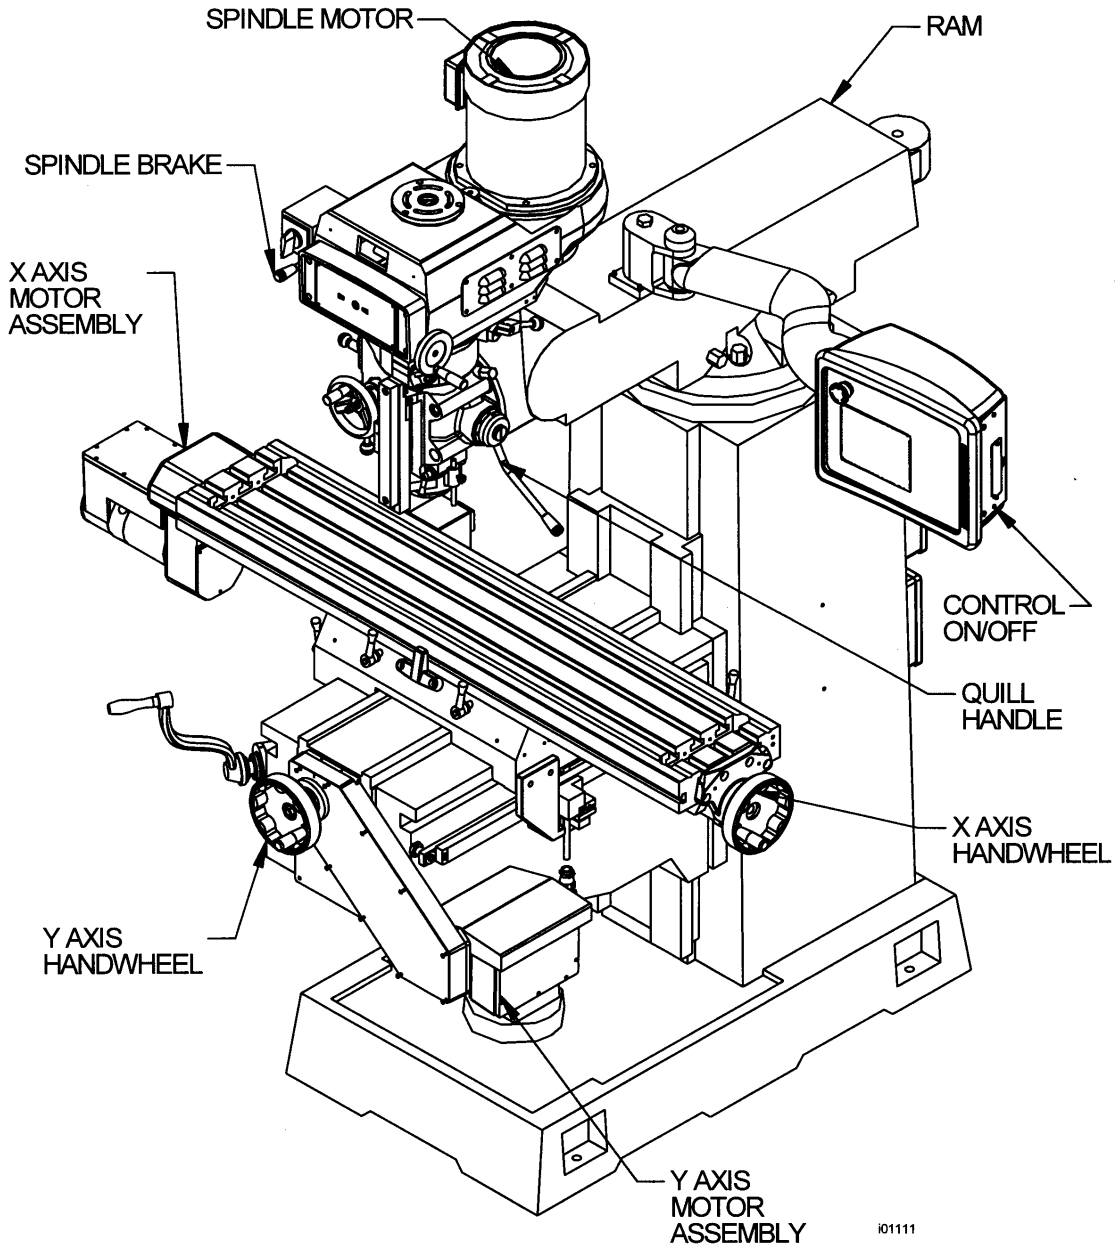

FIGURE 3.3.1 The TRAK Knee Mill Machine Overview
3.3 TRAK Knee Mill Specifications *(See Figures 3.3.1 and 3.3.2)*